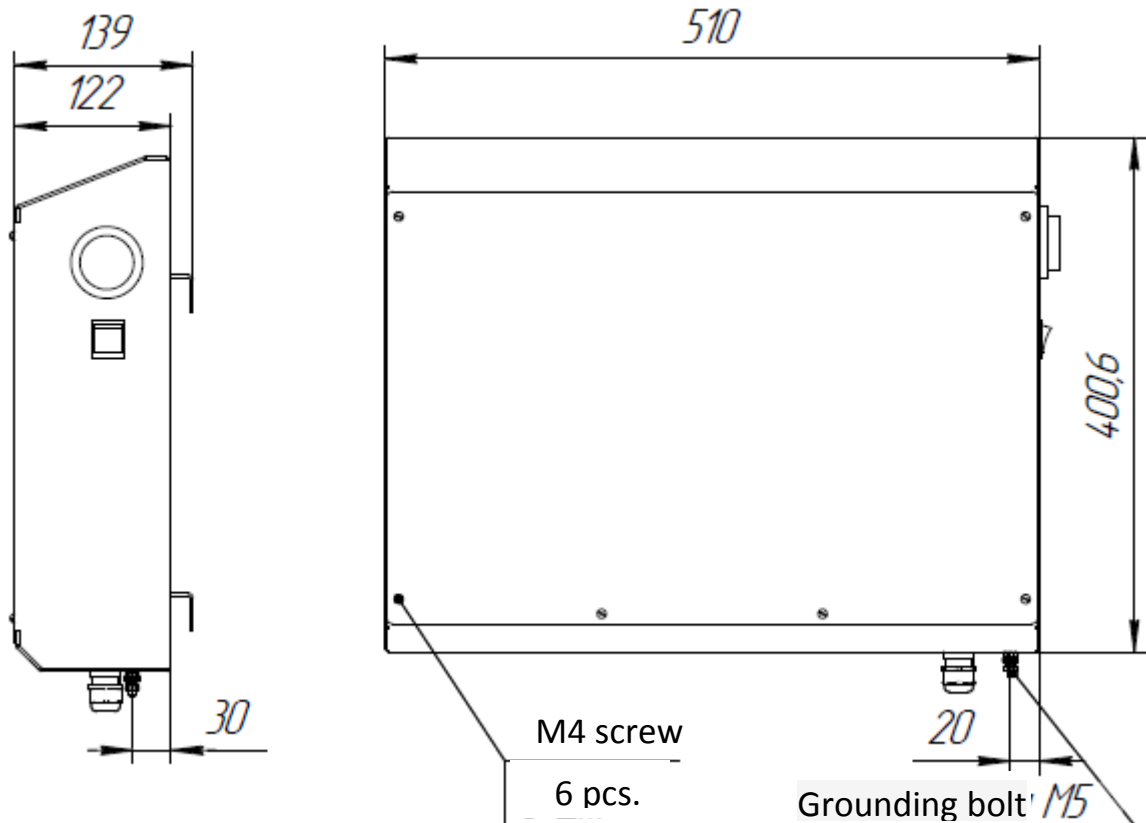

Fig. 1. UT-xxxS. Installation drawing
1. Select an installation place providing free access, connection of cables and termination of cable ends in accordance with the dimensional drawing (refer to fig. 1). To ensure conformance to the IP 22 protection class, the convection heater should be mounted on a vertical bulkhead inside the ship.